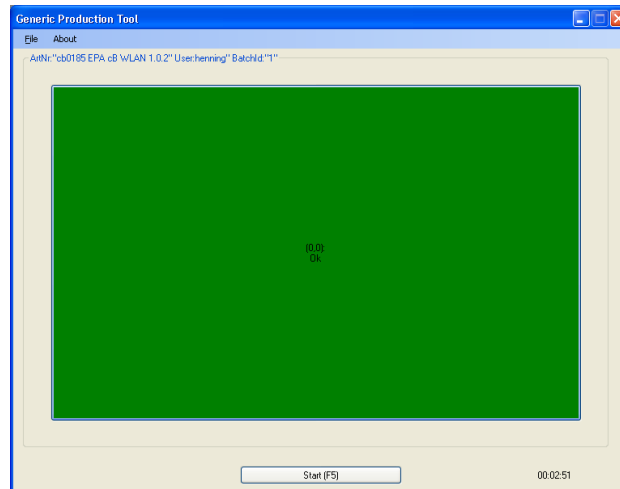

Figure 6 Status OK
- If everything is OK you will now see a screen according to Figure 6.